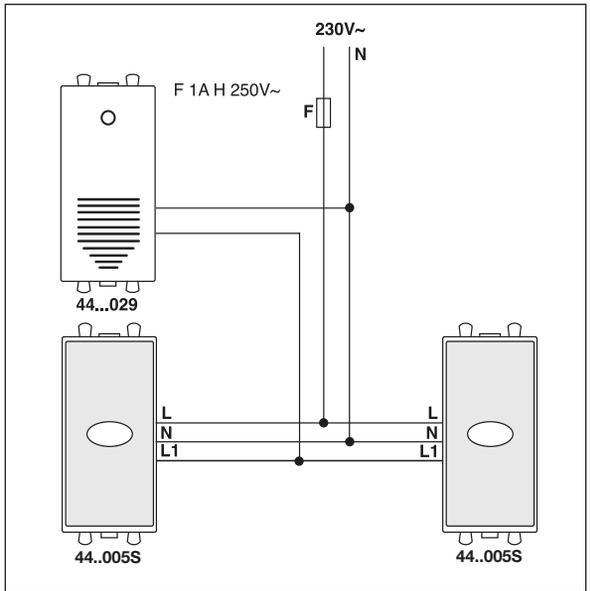

Figure 5
- 44..005S for direct control of electromechanical ringers 44..029 or electromechanical buzzers 44..031 (figure 5).